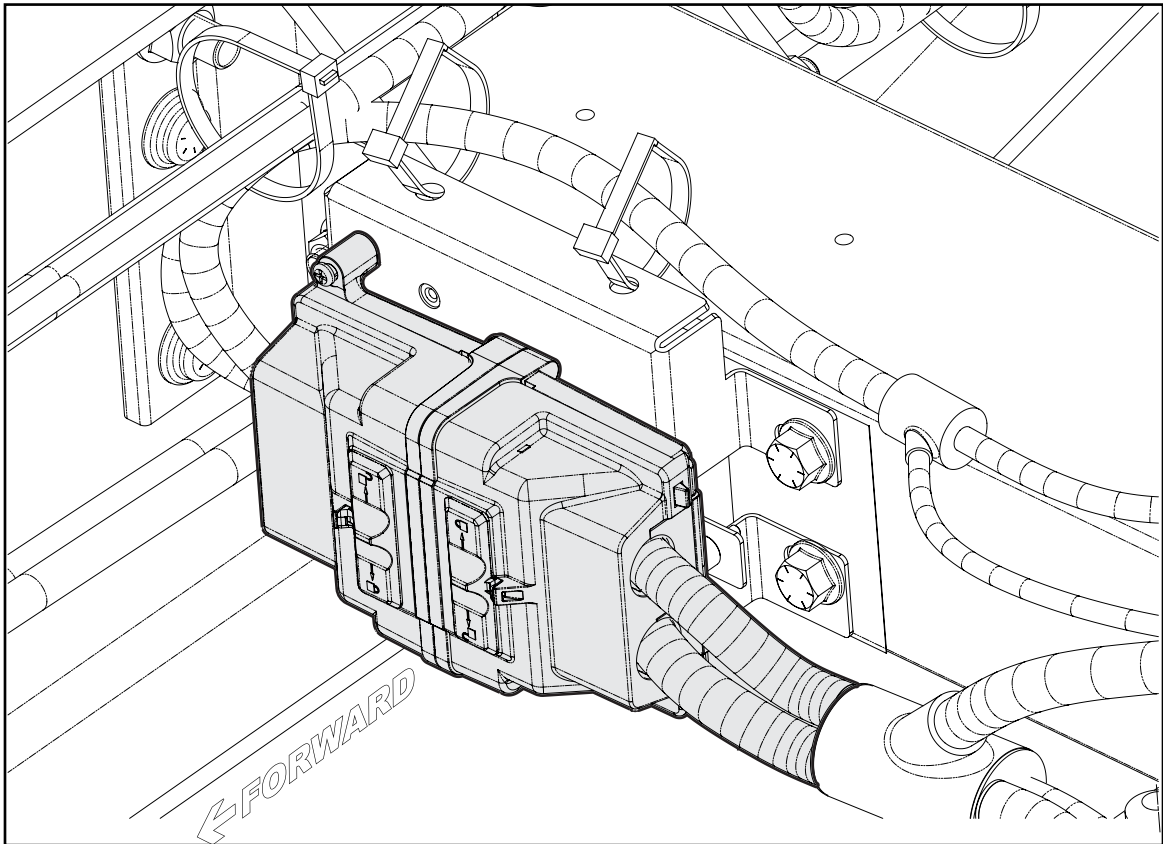

Figure 9
11. Locate the ABS module and disconnect the X3 connector (see Figure 9).